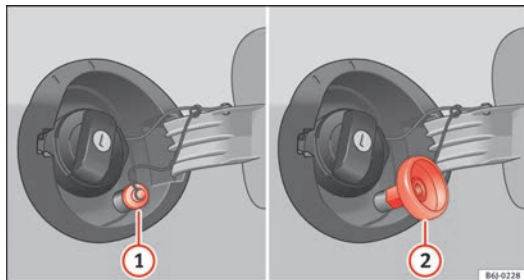

Fig. 119 Fuel tank open with LPG filler neck and adapter.
- Unscrew the cap of the gas filler neck ⇒ fig. 119 ①.
- Screw the required adapter ⇒ fig. 119 ② on the gas filler neck ①.
- Unscrew the adapter ⇒ fig. 119 ②.
- Screw on the cap of the gas filler neck ⇒ fig. 119 ①.